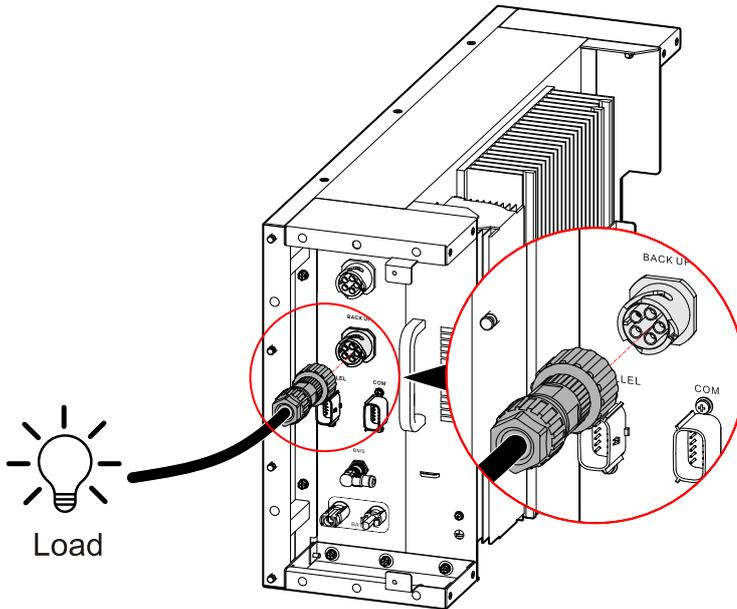

Figure3-43 Connect the load
Step 3 Insert the AC connector to the BACK UP port, as shown in Figure3-43.